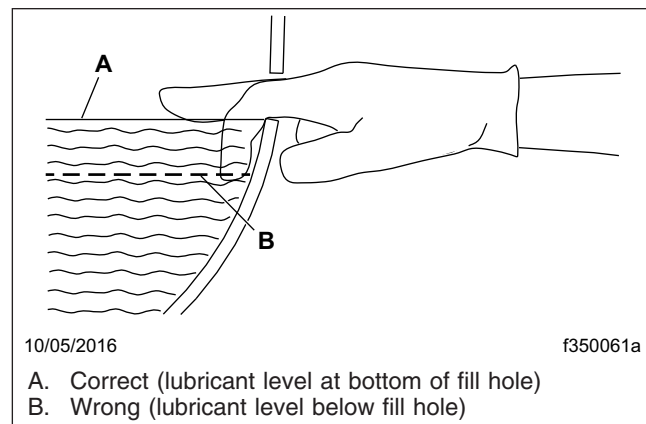

Fig. 9, Drive Axle Lubrication Level
4. Lubricant should be level with the bottom of the fill hole. See Fig. 9. If low, check the axle for
8. Fill the axle housing to the bottom of the fill hole, (Fig. 9) using the specified lubricant. See Table 1 and Table 2 for recommended drive axle lubricants.